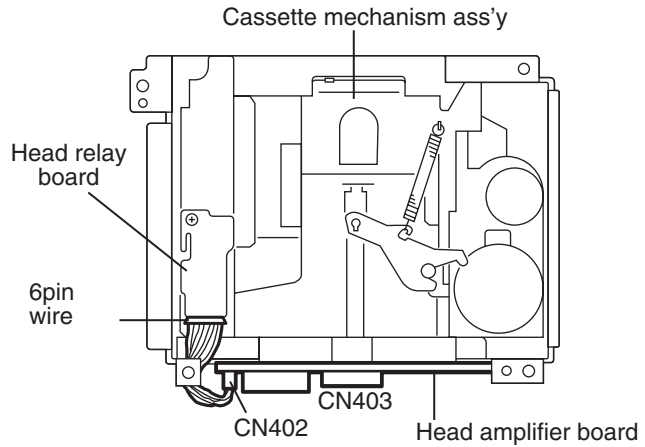

Fig.1
### ■ Removing the front chassis (See Fig.1~2)
(See Fig.1 and 2)**
**■ Removing the cassette mechanism assembly (See Fig.1 to 3)**
1. Disconnect the 6pin wire from connector CN402 and the card wire from CN403 on the head amplifier board (Refer to Fig.1 and 2).